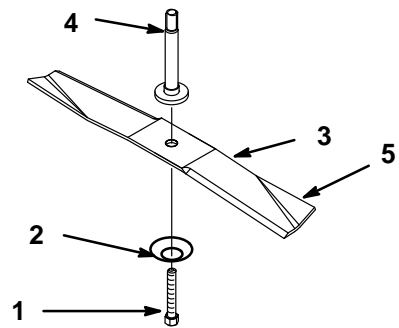

Figure 2
1. Remove the standard blades (Fig. 2).
2. Holding the blade end using a rag or thickly padded glove, install each high-lift blade, Belleville washer (concave side toward the blade), and the blade bolt (Fig. 2).